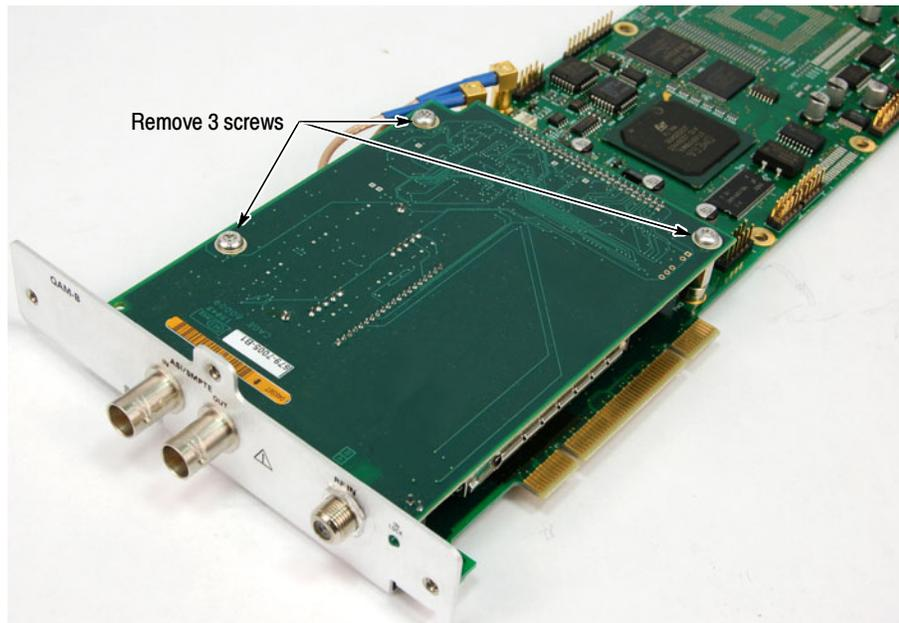

Figure 4: Top circuit board retaining screw locations
6. Remove the three retaining screws from the top circuit board of the interface card (see Figure 4).
11. Install the three retaining screws in the top circuit board of the interface card (see Figure 4 on page 6).